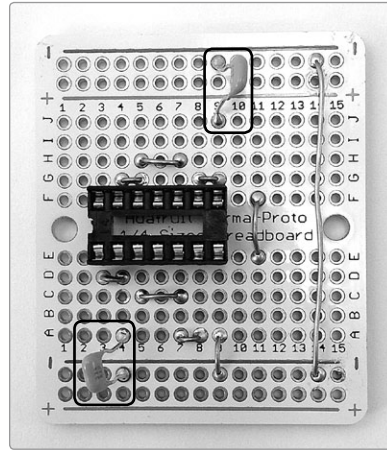

FIGURE 15-10: Mounting the 0.1 μF capacitors
Step 8 Add the two 0.1 μF capacitors, or *caps*. Run one cap from 4A to the lower ground rail and the other from 9J to the upper ground rail (see Figure 15-10). It doesn't matter which leg goes in which hole as these caps are nonpolarized. Solder the caps now.